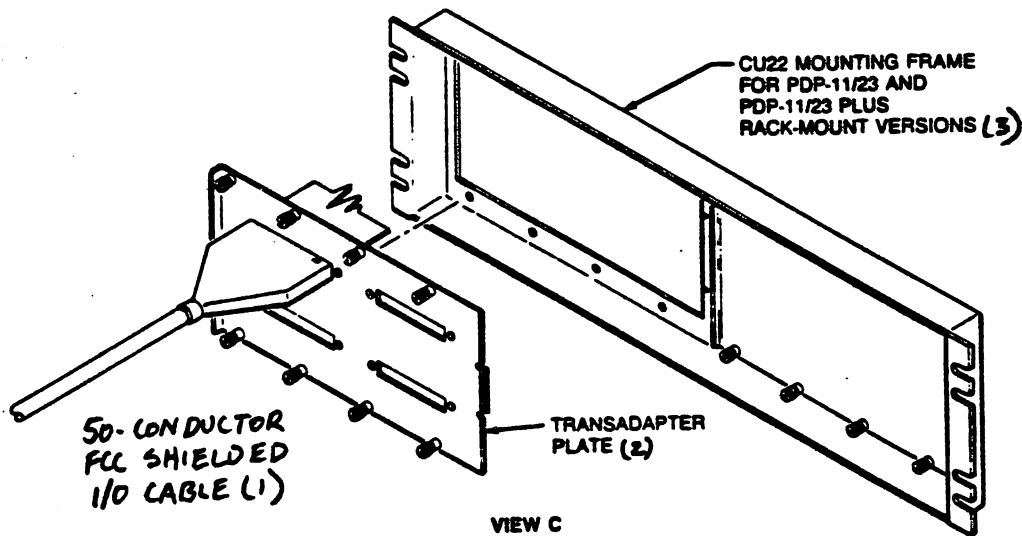

Figure 4-7. Installing the Universal Rack Mount Cabling Kit
The Universal RETMA Rack Mount Cabling Kit can be used in any CPU cabinet that is based on the standard 19 inch RETMA rack. It is particularly useful in with rack mounted LSI-11/23 and LSI-11/23-PLUS CPUs. To install the kit, see Figure 4-7, and use the following procedure.
5. Connect one end of the SCSI round shielded cable to the 50-pin opening in the transadapter plate. See Figure 4-7.